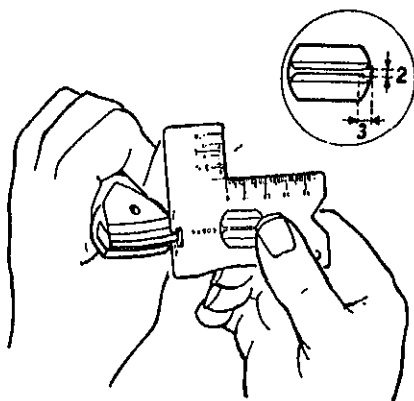

Fig. 2
- the edge width is 2 mm (0.08") measured 3 mm (0.12") from the outer edge. See Fig. 2.